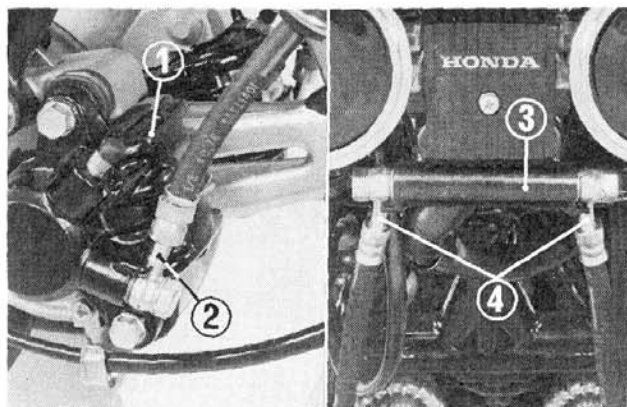

Fig. F2-6 ① Caliper ② Straight side ③ Three way joint ④ Bent side
2. Install the brake hose so that the straight side of the hose ends is at the caliper and bent side is at the three way joint as shown in Fig. F2-6.